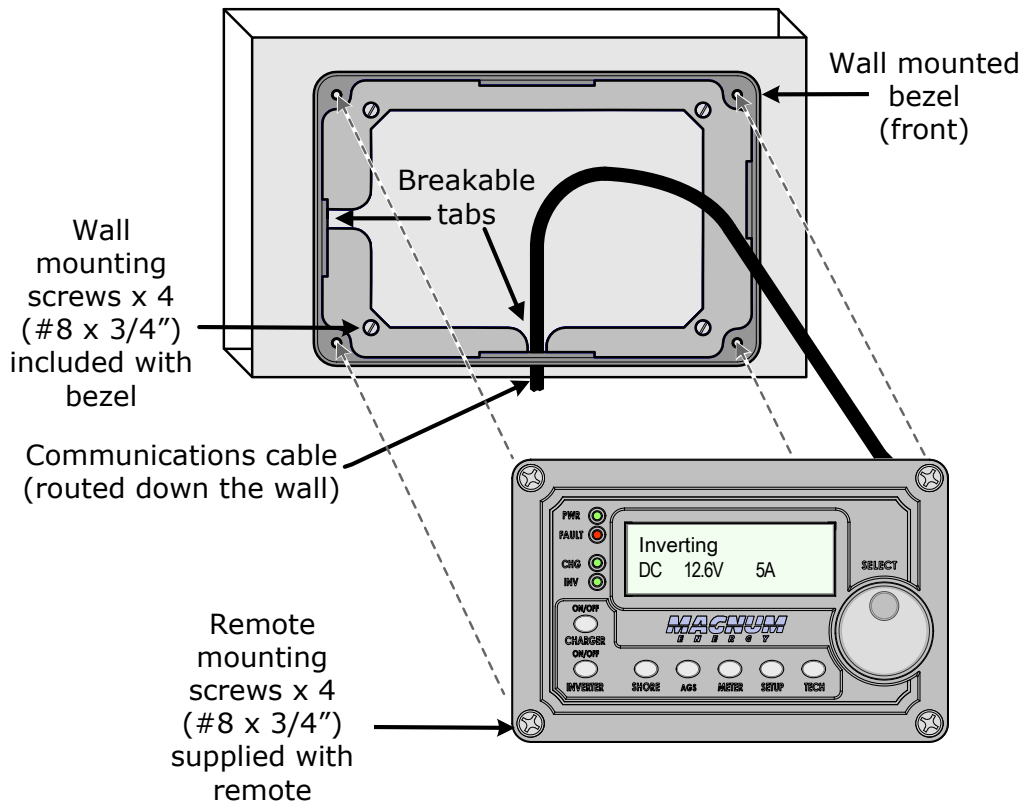

Figure 2, Surface Mounting
3. Determine whether the communications cable will be running up or down the wall, and then cut/break the appropriate tab from the backside of the bezel (see Figure 2).